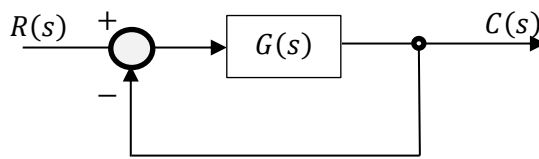

Figure Q2
2. A unity feedback control system is shown in Figure Q2.